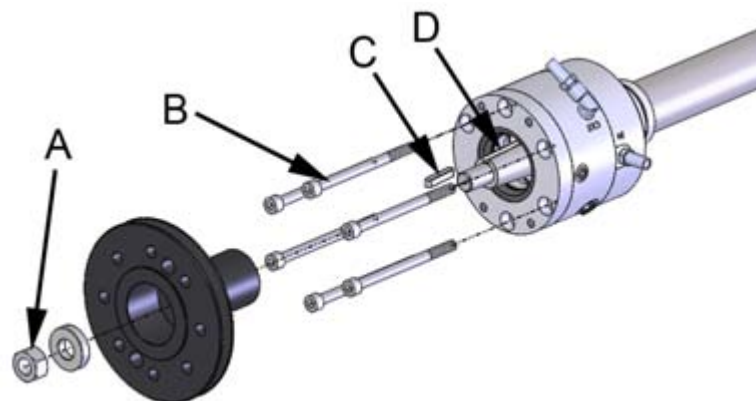

Figure 22. Installing the drive flange
15. Place the bearing housing fastening screws (6 pcs, figure 22, point B) in the holes and install the drive flange.
- 15.1. Place the key (figure 22, point C) in the keyway (figure 22, point D).
The shaft seal in the drive flange contacts the key, but if you lift the rear edge of the drive flange slightly, it will clear the key. The tightening torque of the drive flange nut (figure 22, point A) is 100 Nm. Use a thread locking compound (such as Loctite 242).